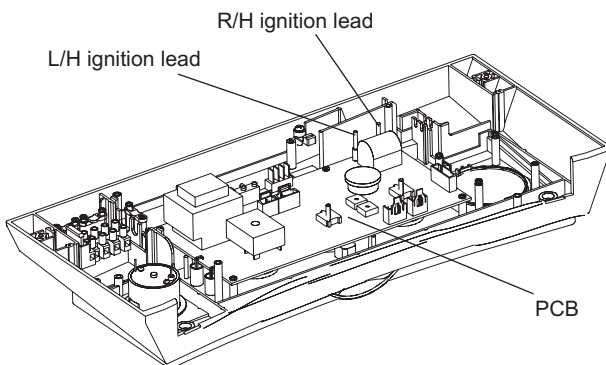

Fig. 27
8.3 IGNITION ELECTRODE LEAD - Refer to Fig. 27
3. Disconnect the lead from the PCB, noting its position (see Fig. 27).
8.14 PCB - Fig. 27